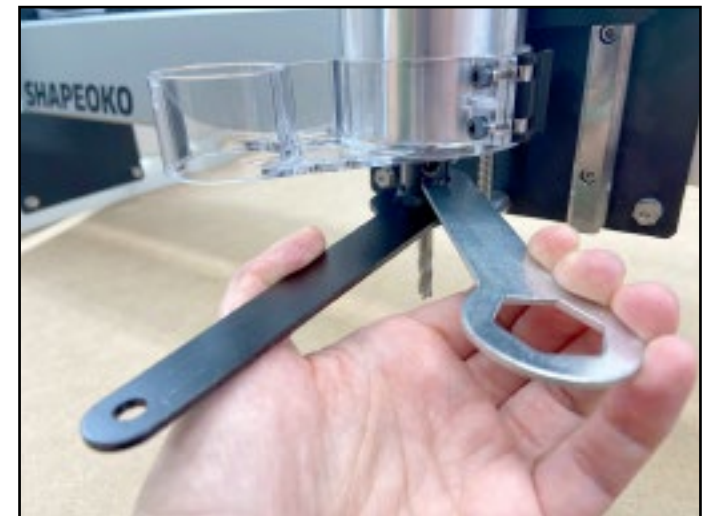

Figure 10-10
2. Use the 22mm collet nut wrench and the 13mm spindle wrench to tighten the collet nut securely. See **Figure 10-10**. Alternatively, you can press and hold the shaft lock while tightening with the 22mm collet nut wrench. **Never tighten the collet nut without an end mill inserted into the collet cone.**